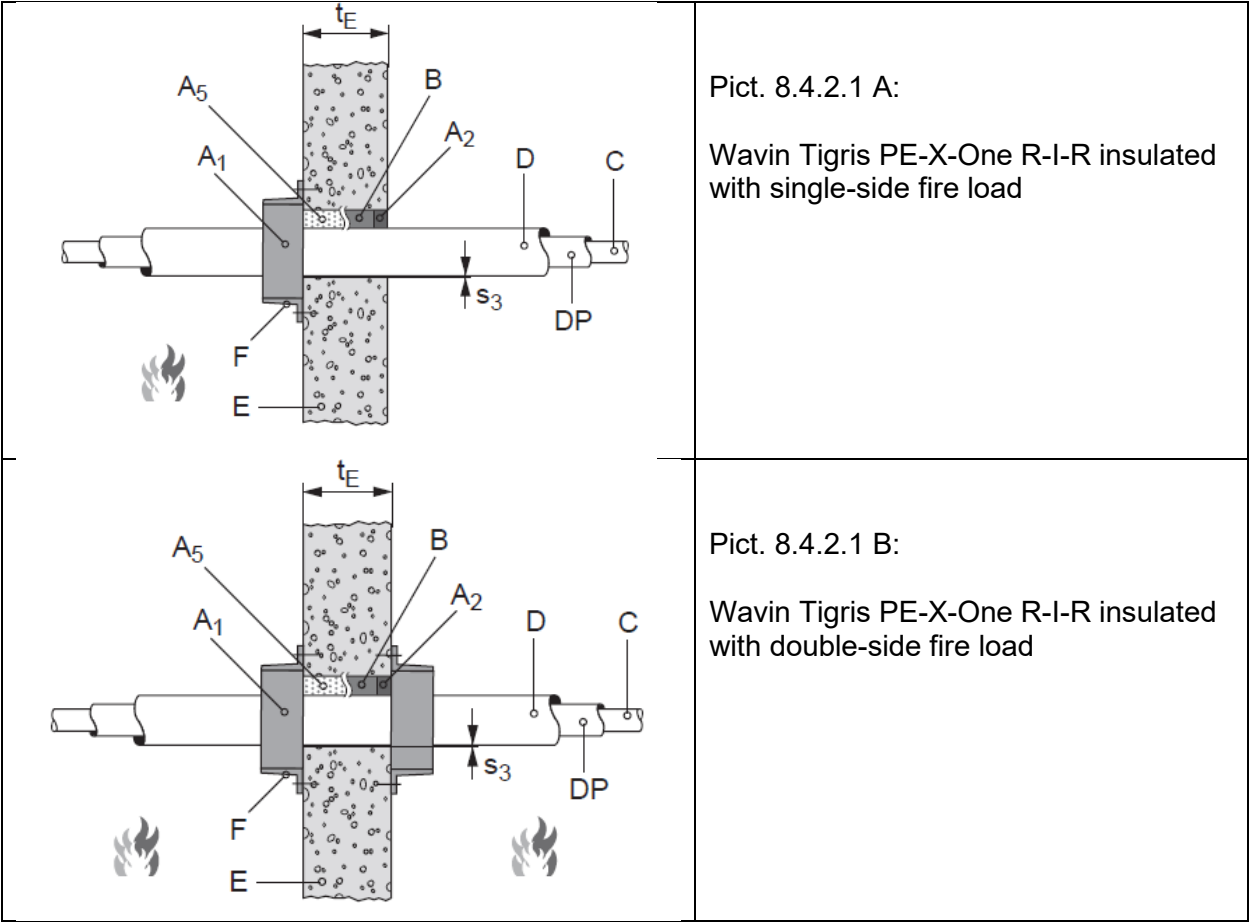

Figure 54: Wavin Tigris pipe with single side / double side fire load
- Single penetration seal (C) or multiple seal (bunched pipes)
- Pipe (C) penetrates perpendicular the wall
- Pipes may be sealed for single side fire load and double side fire load, refer to Figure 54